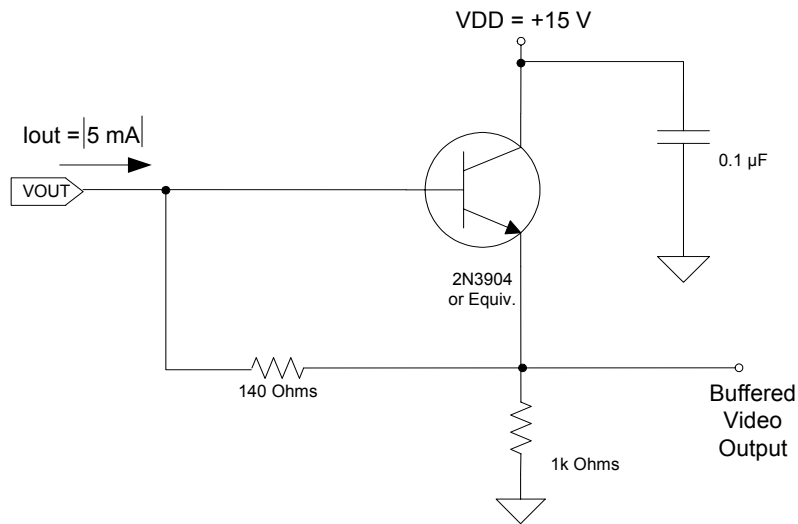

Figure 3: Recommended Output Structure Load Diagram.
electronics, the reset gate (RG) is clocked to remove the signal and FD is reset to the potential applied by reset drain (RD). Increased signal at the floating diffusion reduces the voltage seen at the output pin. To activate the output structure, an off-chip current source must be added to the VOUT pin of the device. See Figure 3.